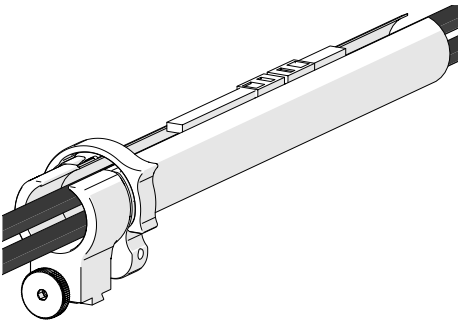

Fig. 91 - Zip opposite end
3. Once the cable is placed the entire length of the tube, bring the zipper from the tube's opposite end, meeting at any point in the middle (*Fig. 91*).